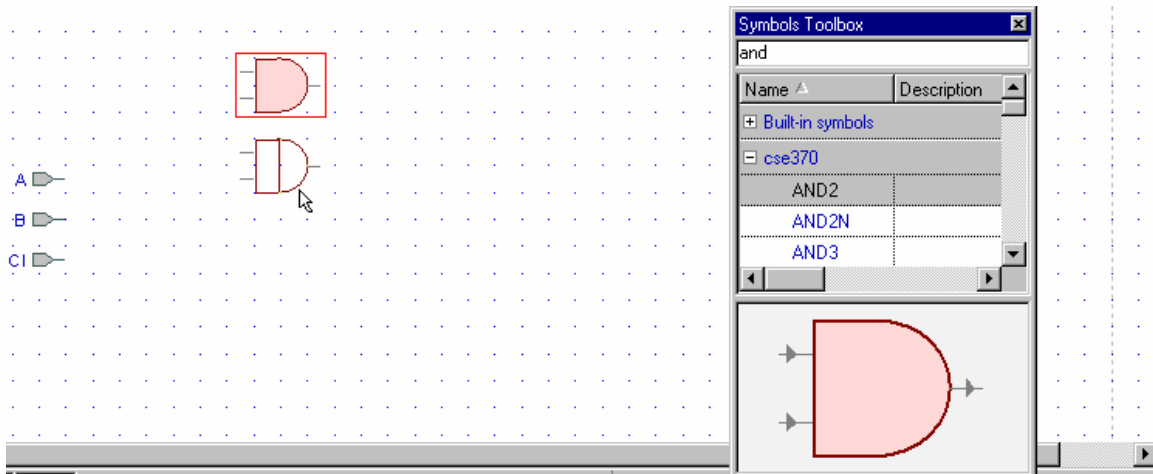

Figure 16
2. Locate the lib370 library in the left frame of the main window, and right click it (Figure 16).
9. Active-HDL uses the standard Windows user-interface to select, move, and copy items in the schematic (i.e. drag, Ctrl-drag for copying multiple parts, Ctrl-z for undo, etc.). Figure 16 is an example of Ctrl-drag.